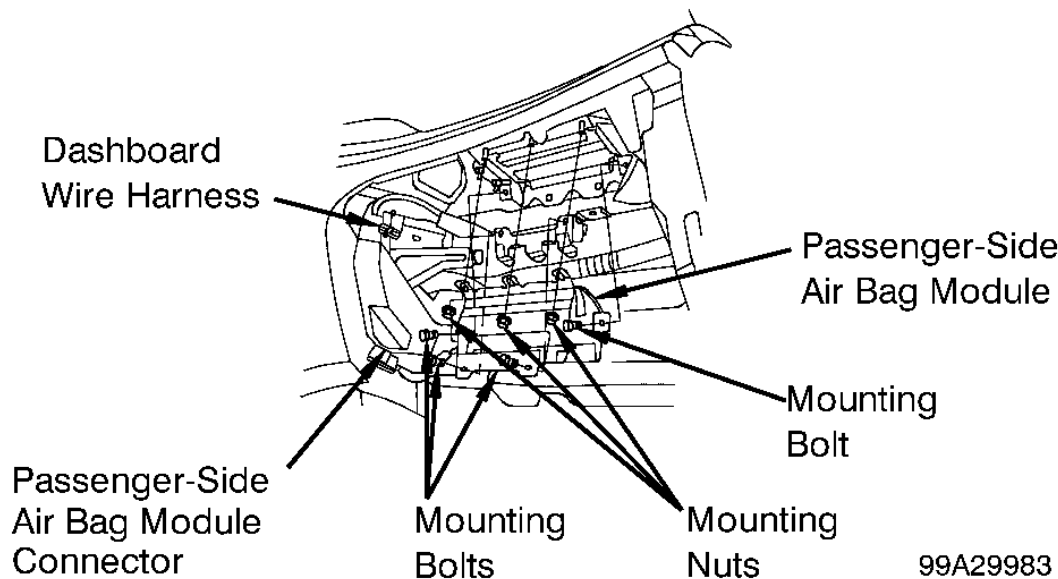

Fig. 20: Identifying Passenger-side Air Bag Module
1. Before proceeding, see **AIR BAG SAFETY PRECAUTIONS** . Disable air bag system. See **DISABLING SYSTEM** under DISABLING & ACTIVATING AIR BAG SYSTEM. Remove glove box striker bracket and A/C duct. Disconnect passenger-side air bag module connector from dashboard wire harness connector. See **Fig. 20** . Disconnect instrument panel lower panel. Remove passenger-side air bag module mounting bolts and nuts from bracket, then remove air bag module.
3. Remove passenger-side air bag module mounting bolts and nuts from bracket, then remove air bag module. See **Fig. 20** . Remove screws and separate upper instrument panel from lower instrument panel. See **Fig. 21** .